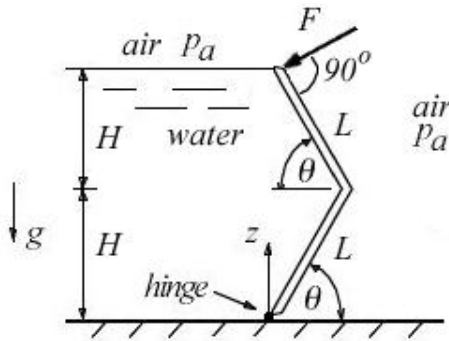

Figure P2.57
2.57 A rigid gate of width w is pivoted at a frictionless hinge as shown in Figure P2.57. A force F acts at the top of the gate so that it is at right angle to the gate. The dam is filled with water of density ρ of depth $2H$. The atmospheric pressure p_a acts everywhere outside the water.